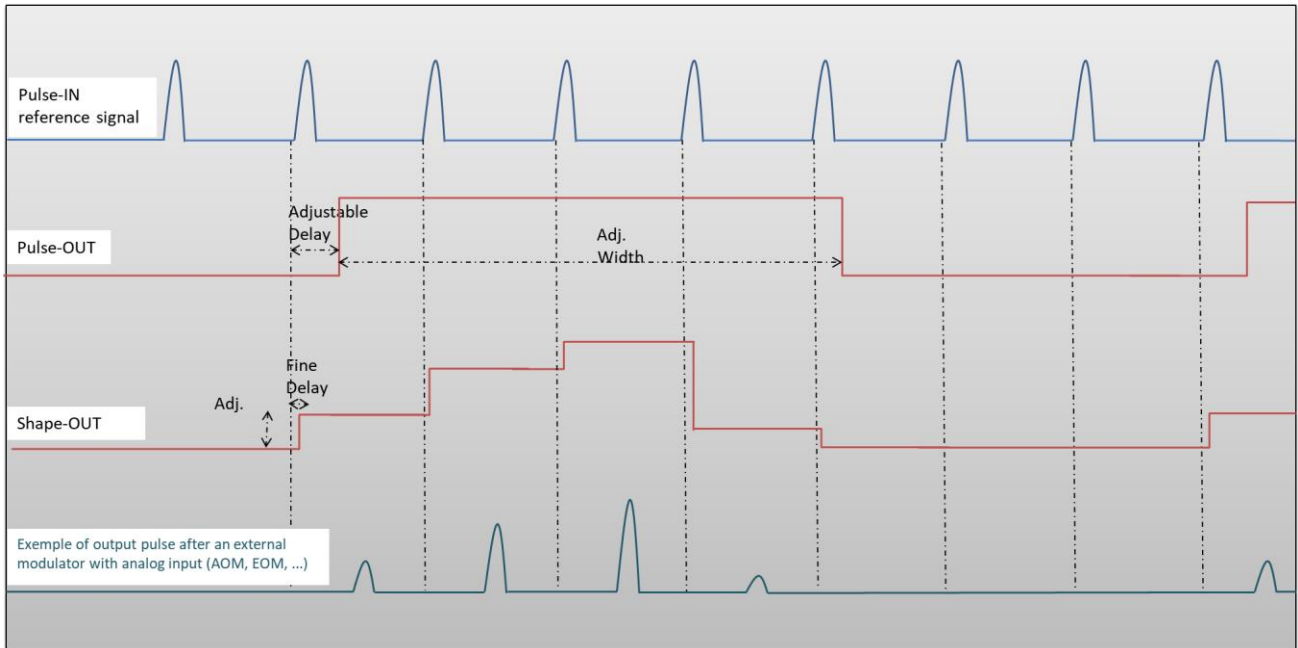

Figure 1 : Analog (Shape-OUT) and digital (Pulse-OUT) outputs with amplitude, delay and pulse width adjusted signals from input
- **Auto Fine Delay** may be let in auto mode or manual if you need to adjust the fine delay from reference signal to each shape point (see Figure 1).